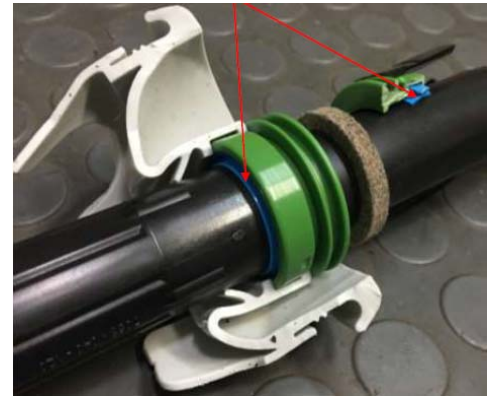

Figure 2
**Two rings** can be seen in the assembly view on Figure 2.